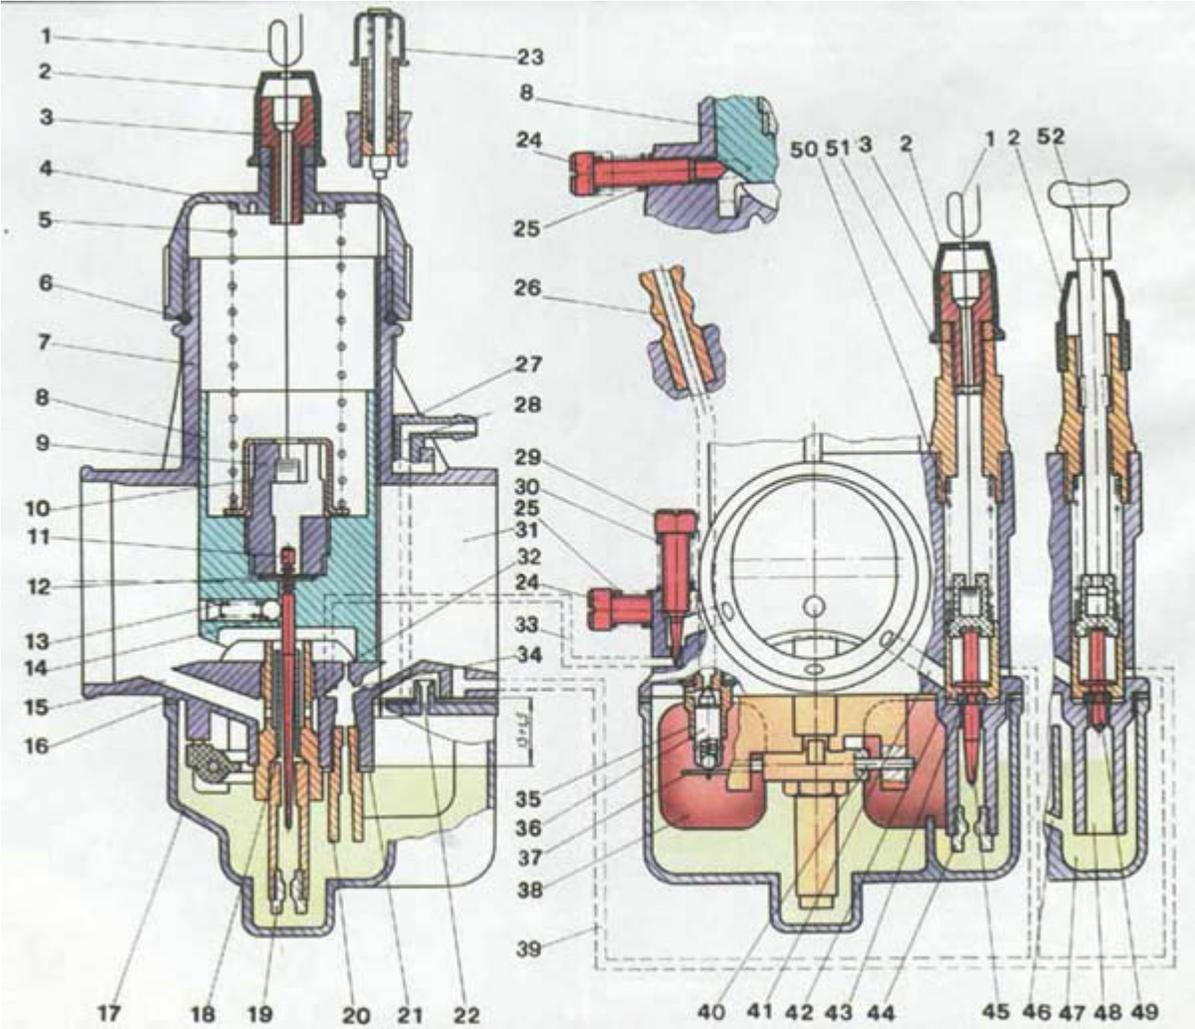
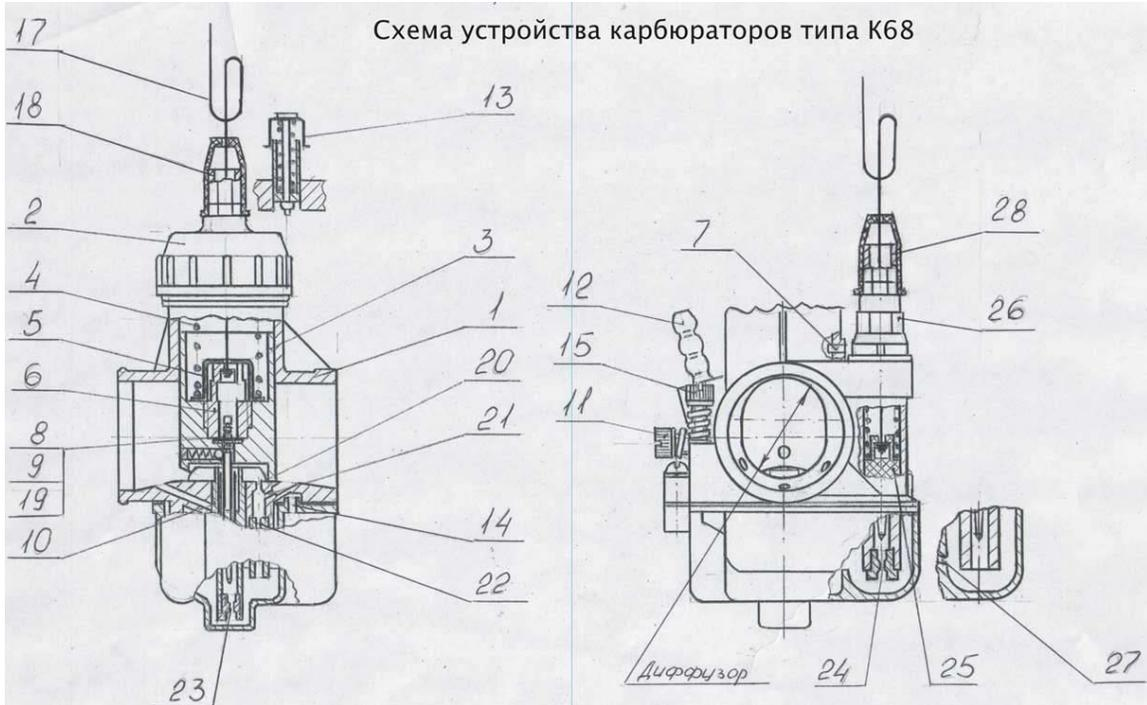

Figure 1
Figure 2
### From Figure 1
Adjust as necessary by bending the float support (#37 in Figure 1). Reinstall.
1. Verify fuel flow. Apply choke (pull 52 in Fig1).
2. Using the ticklers (13) allow fuel to enter the bowl until fuel drains from (14)
Note: Rather than using the opposite cylinder shorted to test the pull of the live cylinder carburetor, you can use something like a Twinmax connected to the test ports (27 Fig 1). Or, if you have a model without these ports, use a Synchronometer (Appendix 2) held against the face of the carburetor. These tools merely show airflow passing through each carburetor (which is dependent on the position and wear on the slide). If using these tools, it's not necessary to do the following steps. You will want to use a throttle guide (Appendix 1), to show airflow at various throttle settings. Using the flow meter of your choice make sure each carburetor is the same at the various throttle settings.
This involves changes to the needle valve (8 and 9 Fig 1) (11 and 12 Fig 2). With the needle moved upward, the mixture is leaned, movement down and the mixture is enriched. Needle movement occurs through removal of the lock and moving the needle to the next groove (coarse adjustment). Fine adjustment occurs through transposition of regulation washer (9 Fig 1) (19 Fig 2).
Disconnect the fuel before maintenance on K68's. Must be used with a tightly connected air filter of manufacturers specification only. A modification of filter or manufacturer is not allowed. Fuel used must be cleaned and filtered of all impurities. Carburetor parts must be washed in gasoline only. Washing is not allowed with solvents. After washing, blow with compressed air to dry. Cleaning any of the metering holes (20,21 Fig 2) or nozzle holes (22, 23, 24 Fig 2) with metallic objects (wire, needle, etc.) is not allowed.